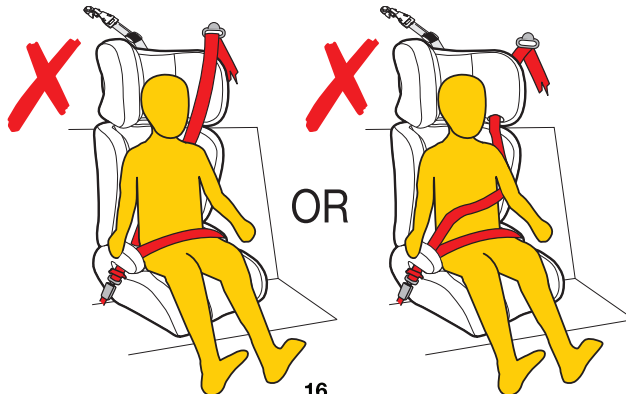

Figure 6
**Step 2:** Adjusting the headrest height to position the sash guide near your child's shoulders to enable the car seat belt sash to be in the correct position (refer Figure 6)(see using Lap-Sash seat belt pages 14-16).
**Step 7:** Pass the shoulder belt through the belt sash guide (refer Figure 6) which is moulded in the side wings of the headrest. Ensure the headrest is positioned as per "Adjusting the Headrest" (see Page 13).